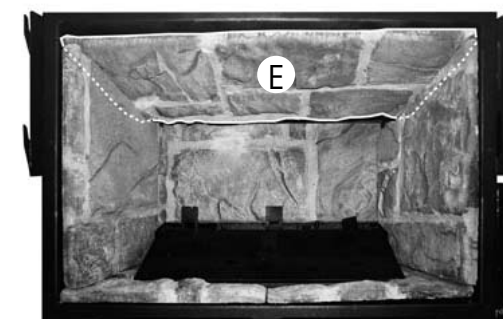

Figure 18
4. Slide the top panel in place with the detailed side down. Make sure panel is positioned all way back and resting on side panels. Top panel should be flush in front with the side panels. See **Figure 18**.